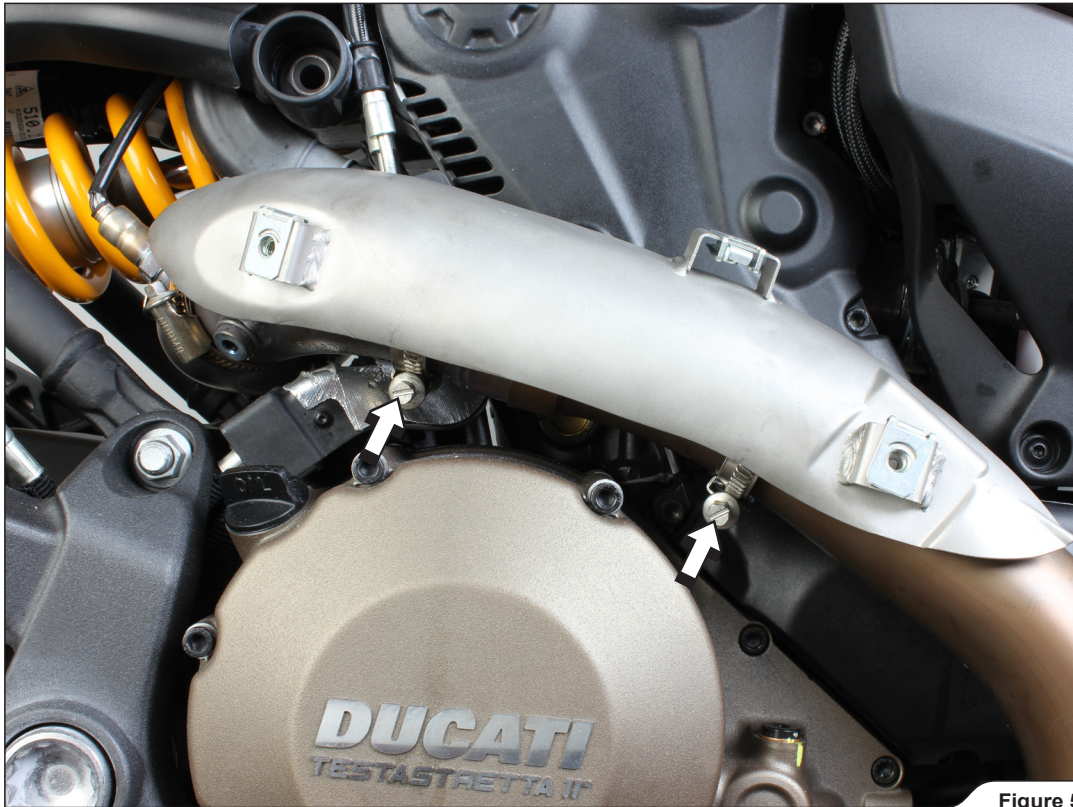

Figure 5
7. Fully unscrew the marked tape clamps and carefully remove the aluminium heat shield (Figure 5).